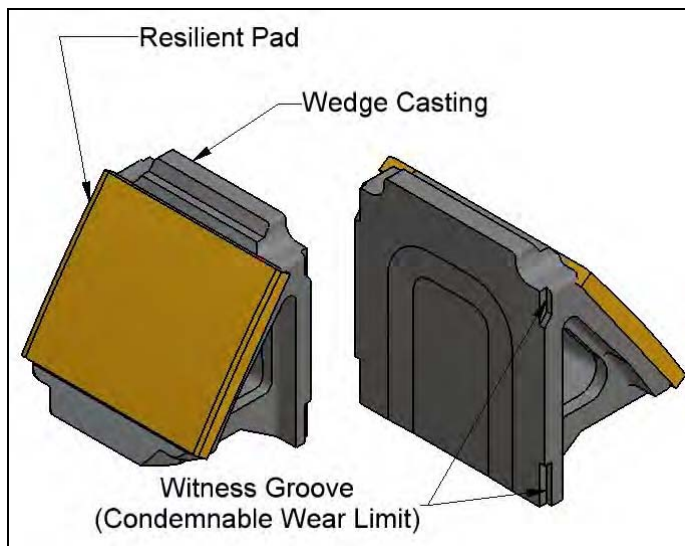

Figure 1
The RFE-51 assembly (Fig. 1) consists of an austempered ductile iron wedge and a resilient urethane pad affixed to the sloped face of the wedge. The two pieces lock together by means of an interlocking waffle arrangement at the interface and an interlocking post on the pad which is retained by a tapered hole on the sloped face of the wedge. Along each edge of the vertical (or wearing) face of the wedge are witness grooves to indicate the allowable wear limit.
1. Check the wear limit indicators (see Fig. 1). The wedge must be replaced when wear limit indicators have been worn away and are no longer visible.